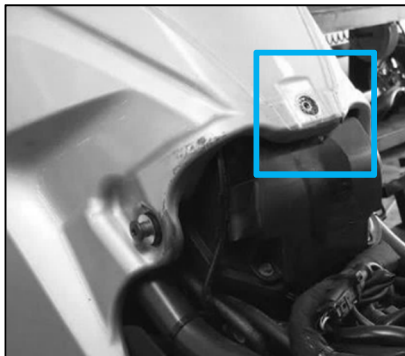
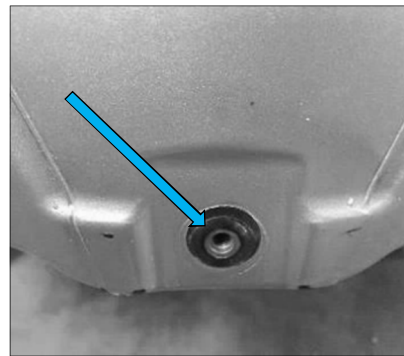

FIG. 1 - Overview with seat removed
FIG. 2 - Detailed view
KTM North America, Inc. has determined that a defect which relates to motor vehicle safety exists with certain 2015 and 2016 1290 SUPER ADVENTURE motorcycles pertaining to the insert on the fuel tank that is used for mounting the fuel tank cover. On affected units there is a possibility that the fuel tank cover mounting insert may leak. The insert is located in the seat area of the fuel tank where the fuel tank cover mounts (FIG. 1 and FIG. 2). To ensure the highest level of safety, performance, reliability and customer satisfaction, it is necessary to inspect this fuel tank insert for leakage and to perform one of the following three steps.
- If the fuel tank falls in the affected serial number range but no fuel leakage can be identified from the fuel tank insert shown in FIG. 1 and FIG. 2 then the dealer must install a specially designed fuel tank insert conversion kit which will seal the insert to prevent potential leakage.
- A. **If** fuel leakage is identified from the insert shown on page 1 in FIG 1 and 2, the fuel tank must be replaced. Use the action code 07_936115_01 for this.